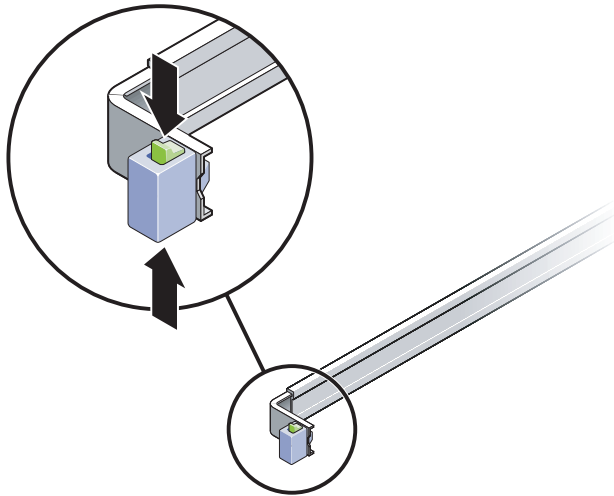

FIGURE 3-23 Unlocking the Slide Rail Assembly
- a. Simultaneously press and hold the upper and lower lock buttons of the slide rail lock (FIGURE 3-23).